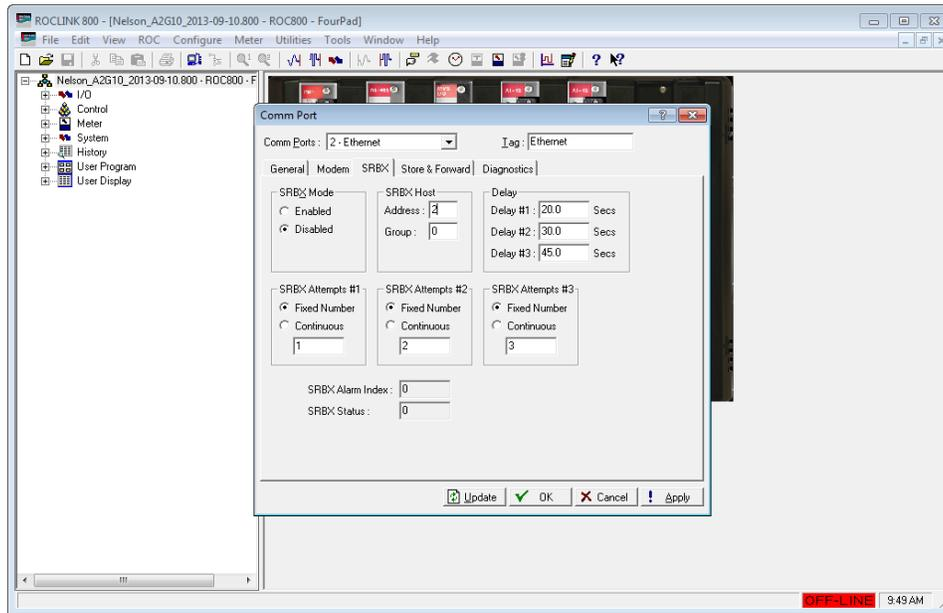

Figure 7.
- Referring to Figure 7, click the SRBX tab.